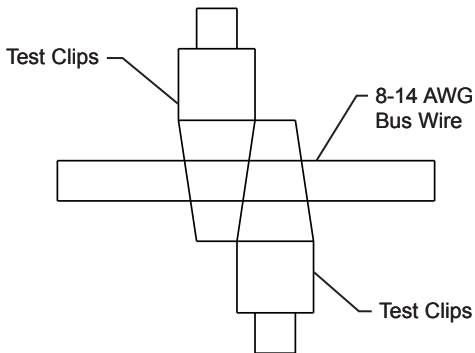

Figure 7. Wire
- 2) Proceed to short the leads as illustrated in figure 7. Once connected properly to the bus wire, the user must depress the **“LEAD CAL”** key again. Upon competition, the unit will beep and display **“OPEN LEAd”**.